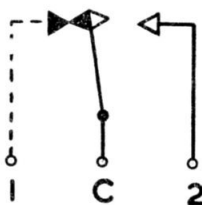

Fig. 3. Wiring diagram
4. The switch is provided with a set of change-over contacts, as shown in fig. 3, taken to terminals 1, C, and 2. In the normal application of this switch for pressure refuelling, terminal 1 is not used. Contacts C and 2 are closed by the setting of the pointer, and open at the end of the 8-minute period, when the cam follower drops off the step on the operating cam.